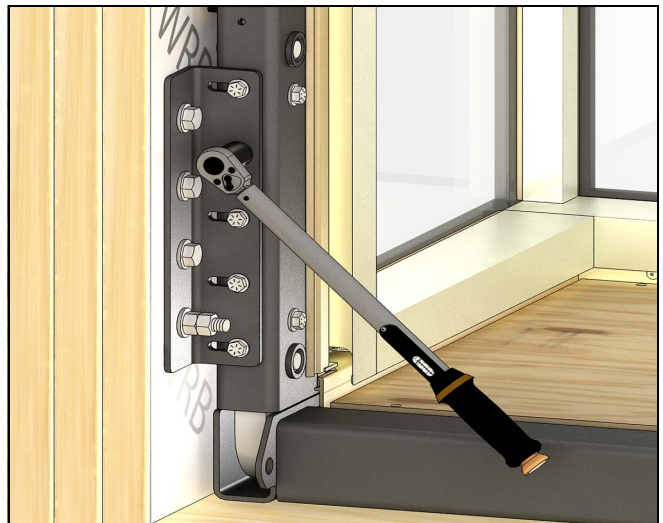

Figure 28
6. Using a torque wrench, torque the 5/16" (8) bolts tight to the upright steel structure to 20 +/- 2 foot pounds. You can remove the unit adjustment brackets at this time to access all of the machine bolts on the top brackets. See Figure 28.